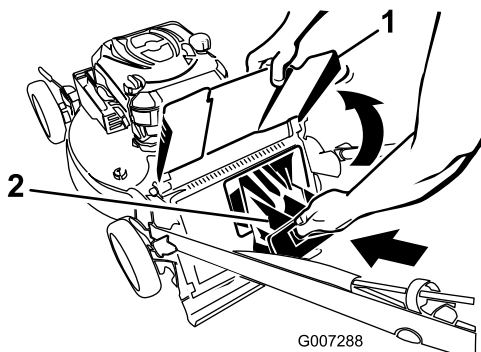

Figure 20
**Important:** Ensure that the rear-discharge plug is locked in place. To lock the plug: Raise the rear-discharge deflector (Figure 20), firmly push the plug in until it snaps into place behind the tabs, and rotate the lever on the plug to the left (Figure 21).